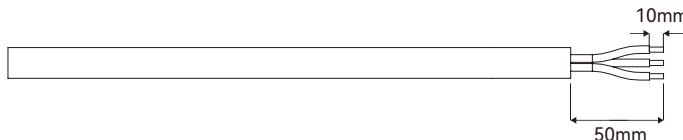

Figure 5-6
② According to the figure 5-6, select an appropriate cable, peel the insulation sleeve of AC cable off for 50mm, and peel off the end of L / N / PE wires for 10mm.